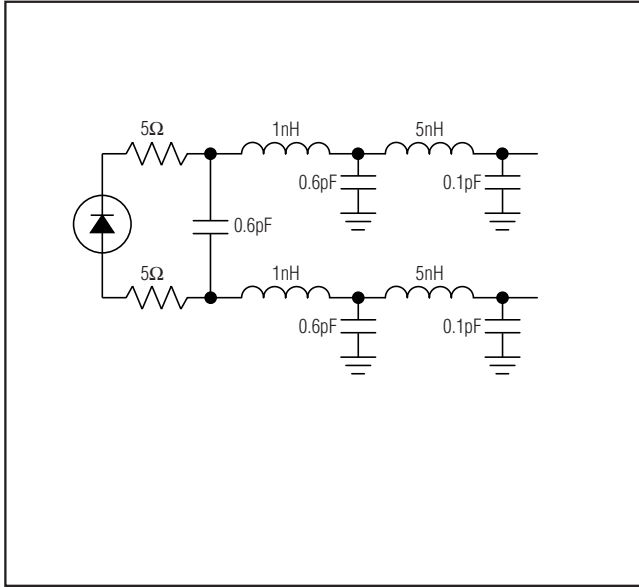

Figure 2. Photodiode and Header Model
**Note 6:** Includes the effects of a packaged photodiode having the characteristics shown in Figure 2.
The optical input circuit includes photodiode bias circuitry, an op amp to adjust VAGC according to the DC photodiode current (for AGC operation), an output balun, and a 75Ω output connector. Through-hole pads are provided to attach the triplexer analog photodiode leads. Since photodiode capacitance and package lead inductance affect the amount of up tilt, in configurations where lead inductance is significantly lower than the value shown in Figure 2, the up tilt may be increased by providing discrete inductance on the PC board. When a CPD = 0.5pF (typ) photodiode is mount-